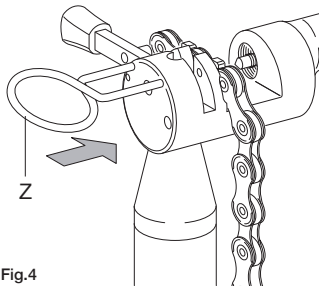

Fig.4
- clamp the link with the special clamping device (Z) (Fig. 4);